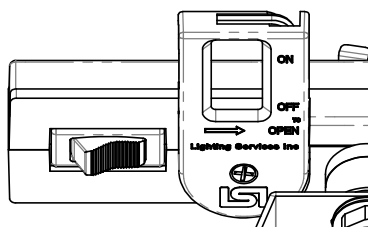
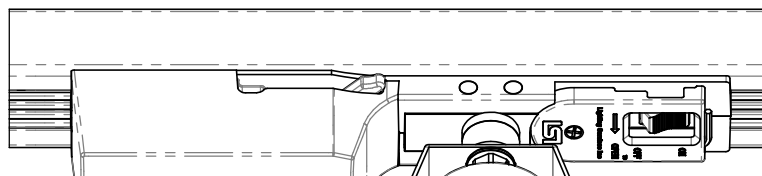

FIGURE 4. FITTING WITH SWITCH OFF AND POWER HANDLE OPEN
FIGURE 6. FITTING INSERTED IN TRACK, DATA HANDLE OPEN
1. FLIP THE FITTING SWITCH OFF, OPEN THE POWER HANDLE (**FIG. 4**) AND OPEN THE DATA HANDLE (**FIG. 6**).
3. INSERT THE FITTING STRAIGHT UP INTO THE TRACK UNTIL FULLY SEATED (**FIG. 6**).